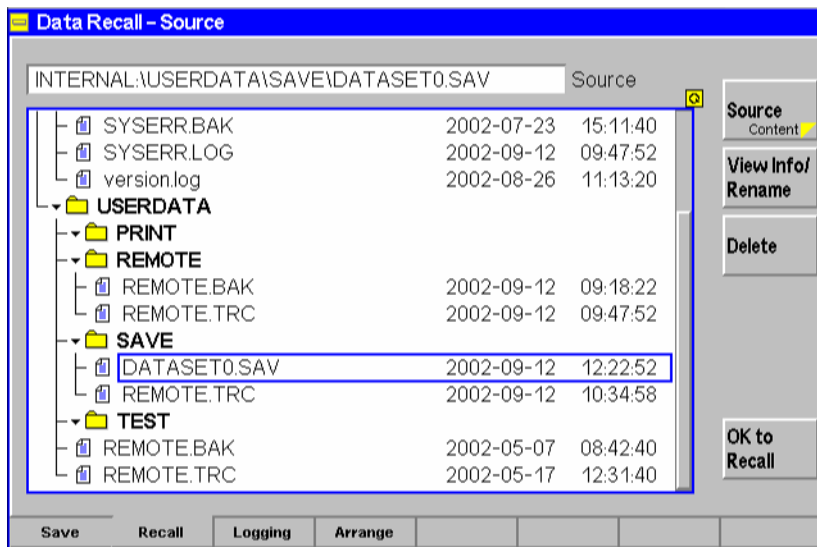

Fig. 4-15 Data – Recall menu
*Source/Content* toggles between the directory view (see Fig. 4-15 *above*) and the overview of function groups and test modes contained in a configuration file (configuration tree); see *Dir. View/Content* softkey on p. 4.30.